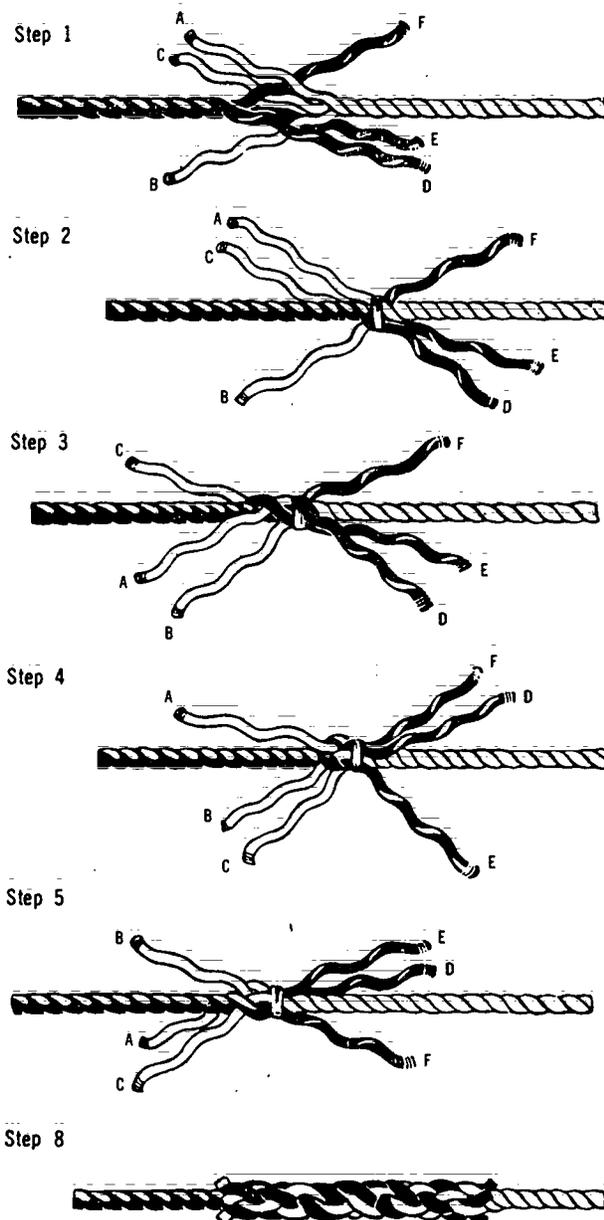

Figure 7-32. Making a Short Splice
- Step 1. Unlay the strands at end of each rope for six or eight turns. Whip the ends of the strands to prevent their untwisting, and bring together so that each strand of one rope alternates with a strand of the other (Figure 7-32, Step 1).
- Step 2. Bring the ends tightly together and apply a temporary seizing where they join (Figure 7-32, Step 2).
- Step 3. Take any one strand and begin tucking, the sequence being over one and under one. Figure 7-32, Step 3, shows how Strand A is passed over the strand nearest to it, which is Strand D, and then under the next strand, Strand E.
- Step 4. Rotate the splice away from you one-third of a turn and make the second tuck; Strand B is passed over Strand E and then under Strand F (Figure 7-32, Step 4).
- Step 5. Before making the third tuck, rotate the splice again one-third of a turn away from you. Strand C is then passed over Strand F; and under the next one, Strand D. The splice now appears as in Figure 7-32, Step 5.
- Step 8. When tucking is finished, remove the centre seizing and cut off the ends of all strands, leaving at least 3/4" on each end. To give a smooth appearance, roll the splice back and forth, either under your foot or between two boards. The completed Short Splice should look something like the illustration in Figure 7-32, Step 8.